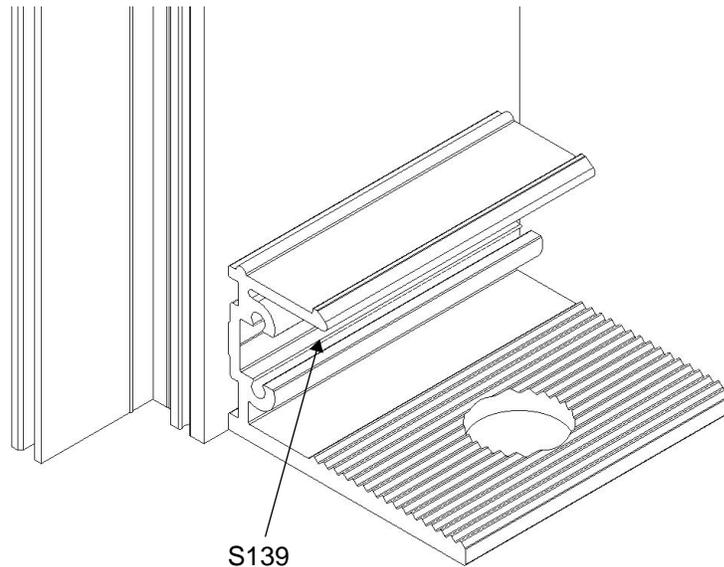

Figure 8: Butt the sill anchor against the side of the mullion.
- Place a shim (not by Tubelite) under the sill anchor, and butt the sill anchor against the side of the mullion, as shown in Figure 8.